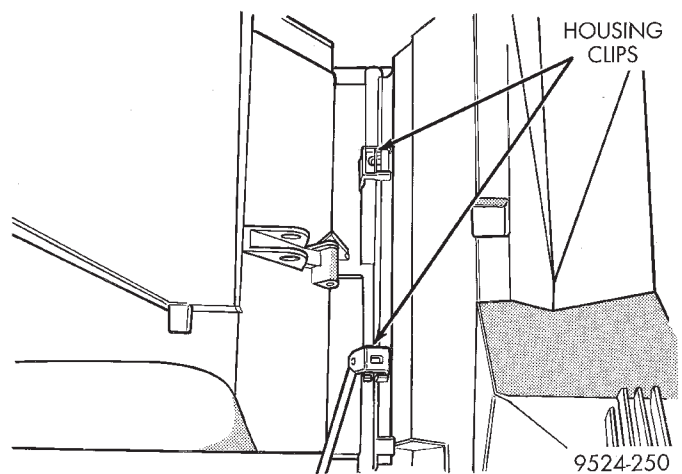

Fig. 36 Housing Clips
(3) Remove recirculation door inlet cover.
- (4) Remove evaporator temperature probe.
- (5) Remove clips retaining evaporator housing to heater/distribution housing (Fig. 36).